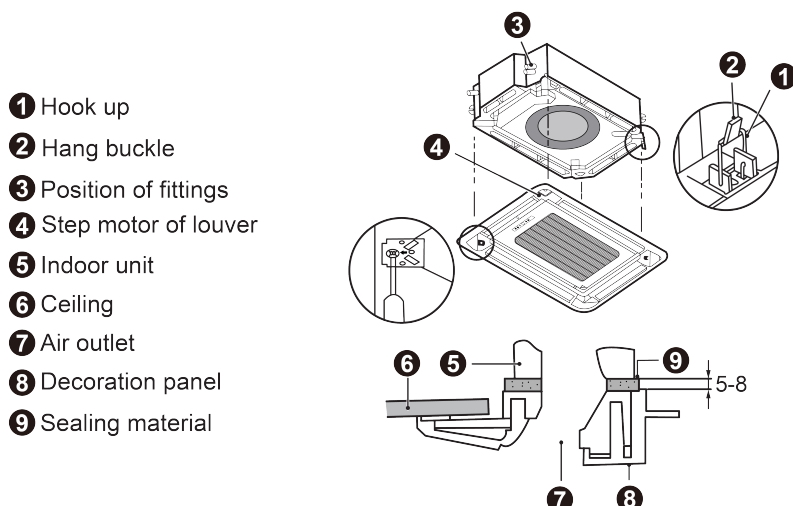
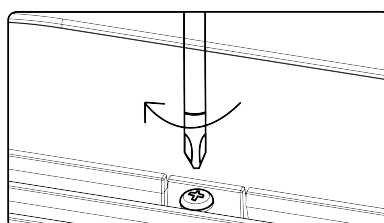

Fig.4.4.4
Fig.4.4.5
- (1) Detach the panel's Corner Cap, there is a mark "piping side" on one of the 4 corners, adjust the panel direction so as to keep the mark and fittings on the same corner.
- (2) Temporarily hang the panel to body (there are four hangers on each corner of the panel, hang the hangers to corresponding hooks on the body), as shown in Fig.4.4.4.
- (3) Detach the air inlet grille from panel, make a wiring connection of signal receiver. Notice that the connection wire not stuck in the middle of body and panel, or may cause air leakage and lead to condensation water drop.
- (4) Tighten 4 screws at each corner of panel respectively, fix the panel on the body firmly.
- (5) After tightening screws, reinstall the air inlet grille.
- (6) Fit the two screws in the Panel Accessory, please refer to Fig. 4.4.5